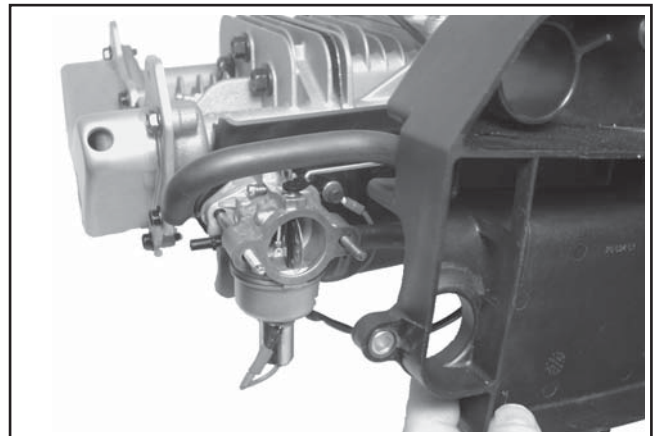

Figure 8-10. Removing Air Cleaner Base and Breather Hose.
4. Disconnect the breather hose from the valve cover and remove the air cleaner base and gasket. See Figure 8-10.